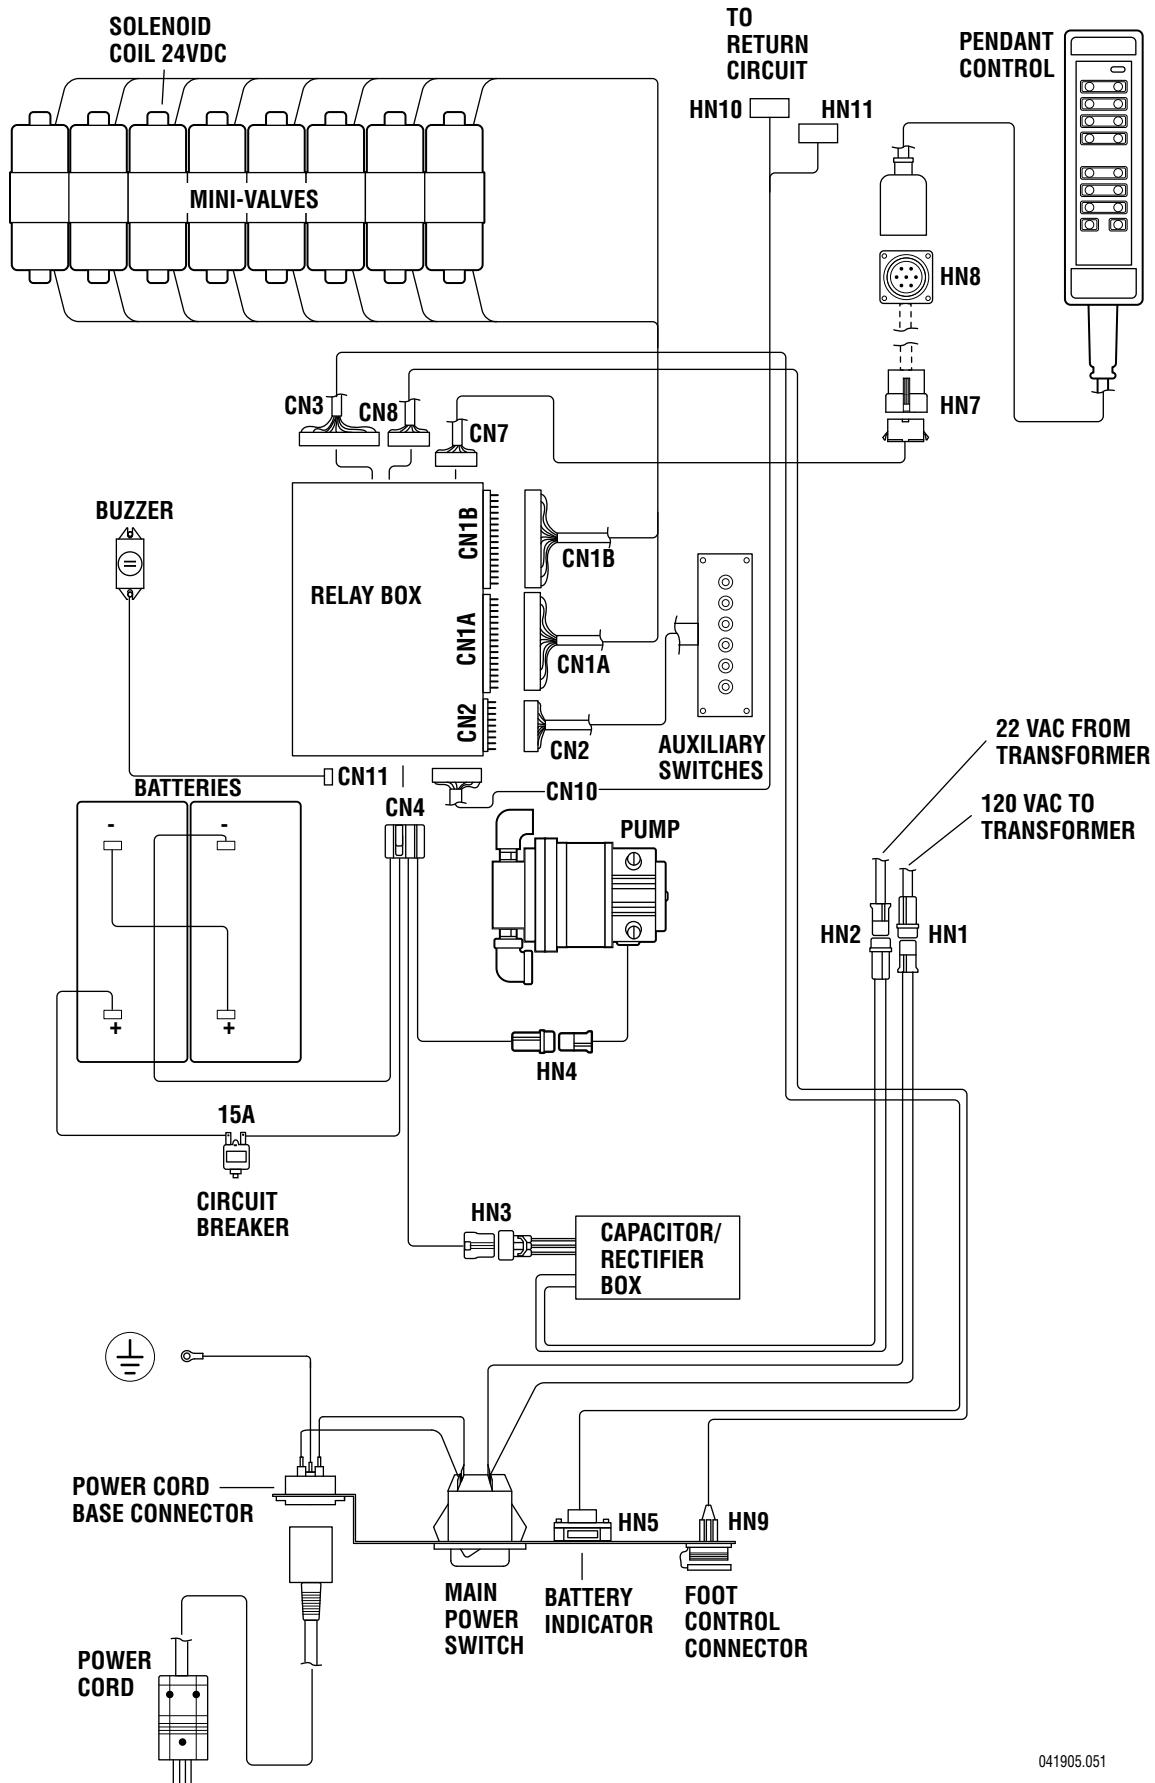

Figure 4-1. Electrical Circuit Block Diagram
Refer to figure 4-1 for the relationship of the electrical components.
2. Disconnect connector HN1. See figure 4-1. Leave all other connectors connected.